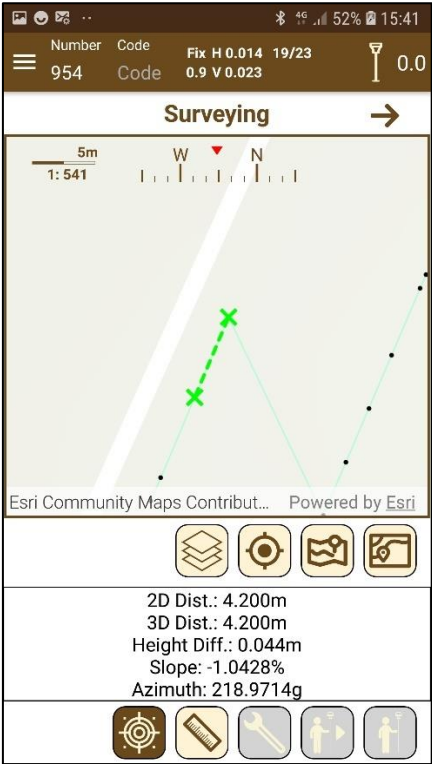

Figure 45. Measuring the distance between two points
- If **distance measurement** is selected, we will be instructed to choose the first point; Once selected, the second point will be requested and then the information about the distance between the two will appear (Figure 45): *distance 2D* (without taking into account the dimension), *distance 3D*, the *height difference* and the *slope* between the two points.